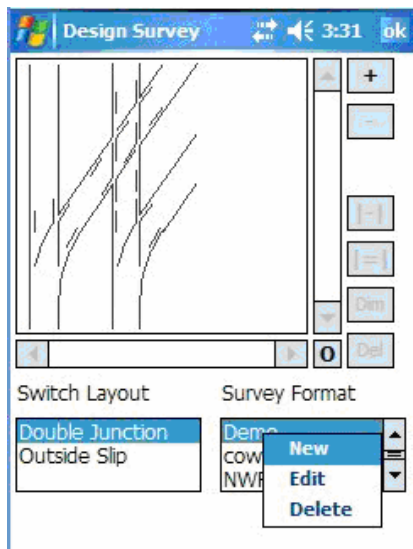

Figure 7
2. Tap and hold in the 'Survey Format' box to reveal another list of options as shown in *Figure 7*. Select the required option